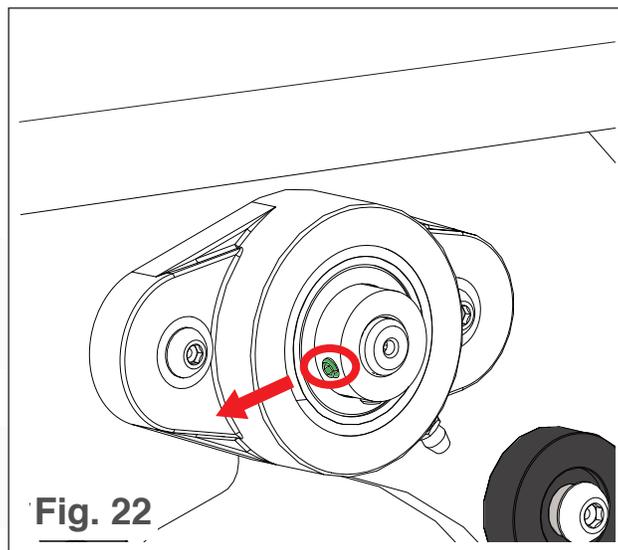

Fig. 22
1. Remove the set screws on both brush bearing flanges (See Fig. 22).